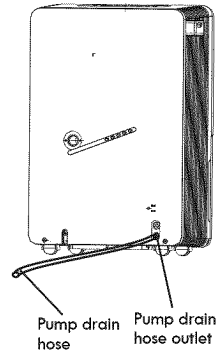

Figure 14
- Insert the pump drain hose into the pump drain hose outlet, making sure it goes in at least 3/4 (15mm). Considerable force is needed to push the hose into the outlet, make sure it "pops" in the full 3/4 inch. See Fig. 14. Lead the water drain hose out to the floor drain or other suitable drainage location at a maximum vertical height of 14 1/2 feet higher than the pump drain hose outlet.